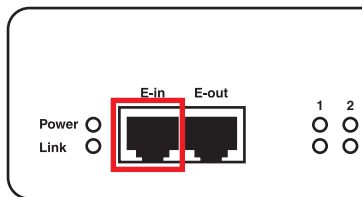

Figure 3-2. E-in port.
2. Connect the other end to the "E-in" port on the expansion module. See Figure 3-2.